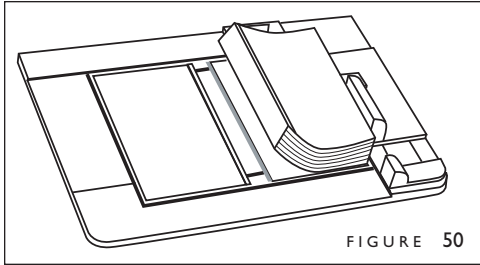

FIGURE 50
12. Set your bound book block into place against the Guide's translucent green stops and press down to fasten the book block to the narrow adhesive area (figure 50). Your book block is now evenly positioned within the cover.